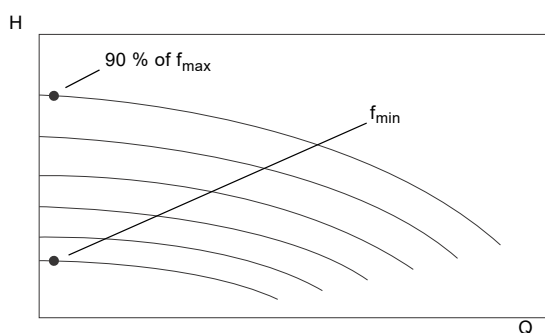

Fig. 115 QH curve for variable speed pump for choosing low flow operating points
3. Click on the pump curve to set the duty point as close to  $f_{min}$  and enter Q to 0.1 as Operating point. See fig. 115
5. Click on the pump curve to set the duty point as close to 90 % speed and enter Q to 0.1 as Operating point. See fig. 115.